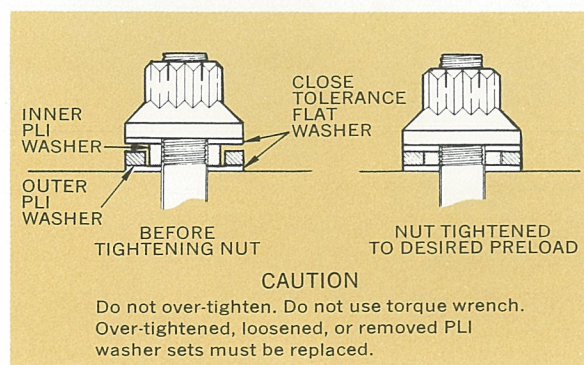

Figure 2. Pre-load Indicating (PLI) washer installation.
Pre-Load Indicating (PLI) washers are used on assemblies where the nut is inaccessible for applying a torque wrench, or where a specific torque is required. The PLI washer assembly consists of four washers—an inner and outer washer between two special close-tolerance flat washers (fig. 2). The inner washer is slightly thicker than the outer washer and will compress when sufficient torque is applied to the nut. When the inner washer is compressed to the approximate thickness of the outer washer, the nut is properly tightened. The outer washer has holes on the peripheral edge to permit testing with a small lever while tightening the nut. The predetermined load of the bolt is indicated when the inner ring is compressed to a point where the outer ring can no longer be turned freely by a small lever or pin inserted in one of the peripheral holes.
1. Place washer assembly on bolt, under nut, as shown in figure 2. Insert a small hardened steel lever, approximately 0.060 diameter by 4 inches long in a hole in the outer washer periphery. A #52 or #53 drill rod or a small allen wrench makes a good lever. *Do not use a paper clip or other wire.*